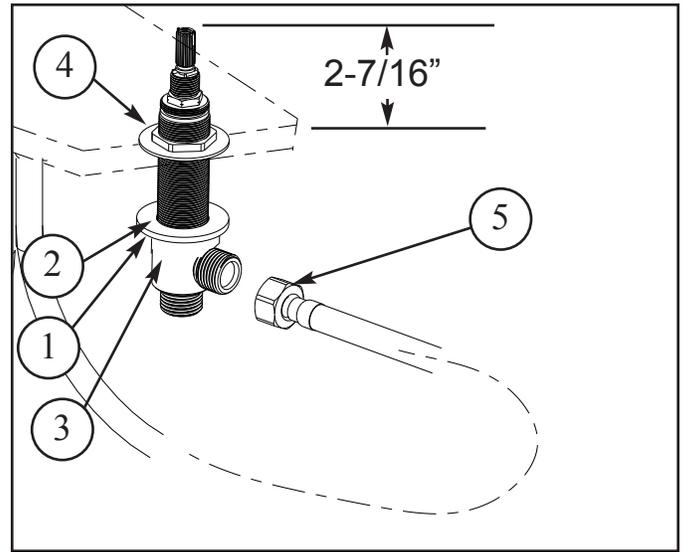

Figure 2
2. Place the plastic flange NUT (1) and fiber WASHER (2) onto valve BODY (3). Insert valve BODY (3) through sink hole from underside of sink. Thread flange NUT (4) onto upper position of valve BODY (3). Valve BODY (3) should extend 2-7/16" above mounting surface. Secure into place by tightening flange NUT (4) to 20 ft.lbs. Connect larger coupling NUT (5) to outlet of each valve BODY (3). Hand tighten and secure each connection with a wrench 1/4 turn. See Figure 2.
3. Connect water supply to VALVE BODIES(1) with one of the three following types of risers: